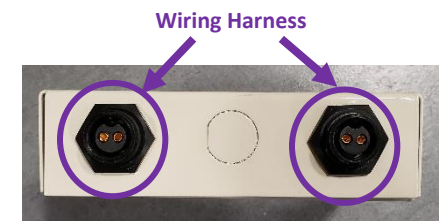

Figure 5 (Bottom of Control Box)
11. Mount the interior strobe to the interior wall and connect the wiring harness to the control box (Figure 5).